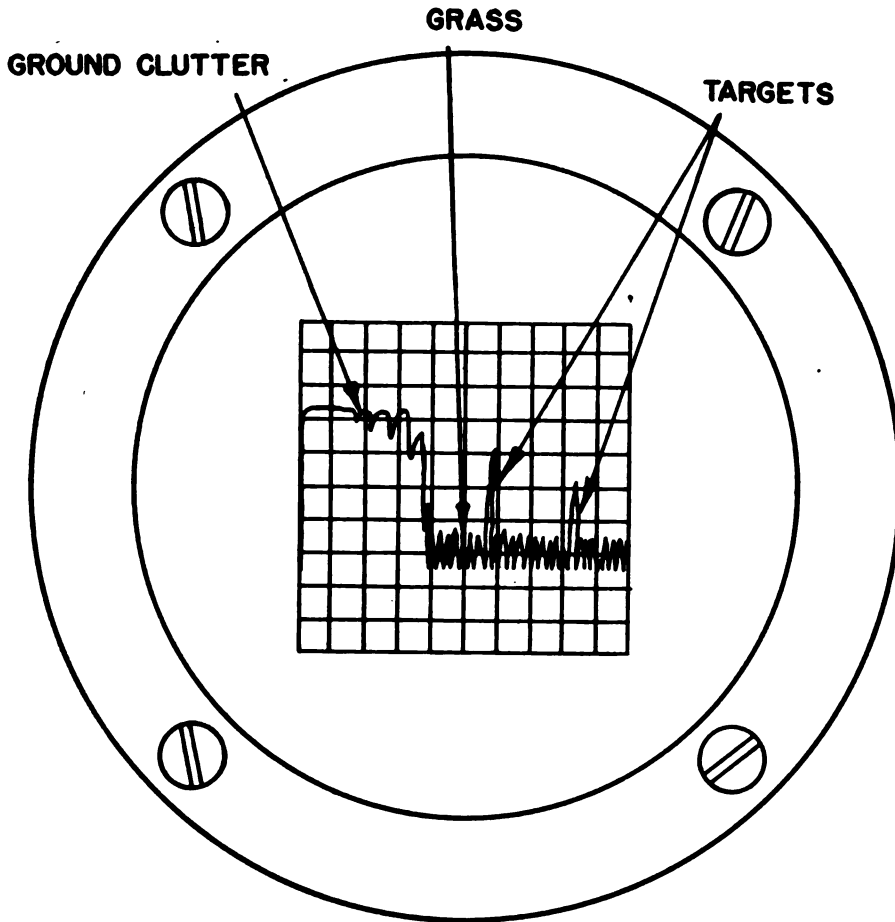

Figure 184. Radio Receiver BC-1223-A, video output waveform.
- k. Figure 184, Radio Receiver BC-1223-A, video output waveform.
(1) *Video output test.* Connect the synchroscope to the VIDEO TEST jack (fig. 187) and arrange the synchroscope to obtain the video waveform shown in figure 184. The waveform is taken with the S.T.C. AMPLITUDE control turned to maximum counterclockwise position. If the waveshape shown in figure 184 is not obtained, the trouble may be in the transmitter, r-f, or receiver systems, in which case make the transmitter test below.
(2) *Transmitter test.* The method of testing the transmitter system for proper functioning is described in paragraph 72b. If the transmitter is operating satisfactorily and there is no output or a poor output from the receiver in step (1) above, the trouble is localized to the r-f or receiver systems.
(b) Another method of checking the S.T.C. circuit is to connect the synchroscope to the VIDEO TEST jack in the receiver (fig. 94) so as to obtain a video pulse (fig. 184). By varying the S.T.C. AMPLITUDE control (fig. 104) it should be possible to cause the main pulse to appear and disappear.